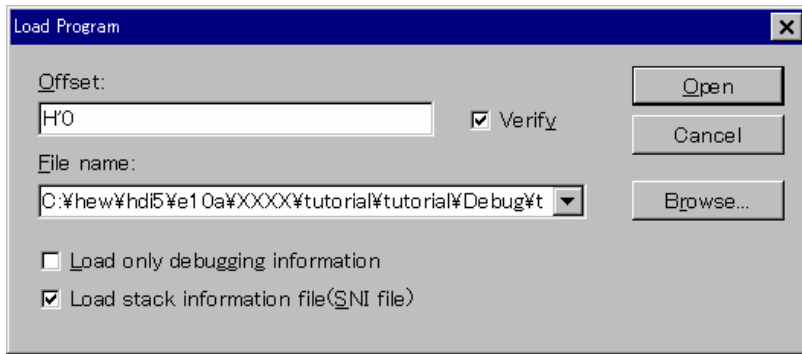

Figure 3.6 [Load Program] Dialog Box
- Select [Load Program...] from the [File] menu. The [Load Program] dialog box is displayed. Enter '[installation directory]\tutorial\tutorial\Debug\tutorial.abs' in the [File name] list box as shown in figure 3.6, then click the [Open] button.